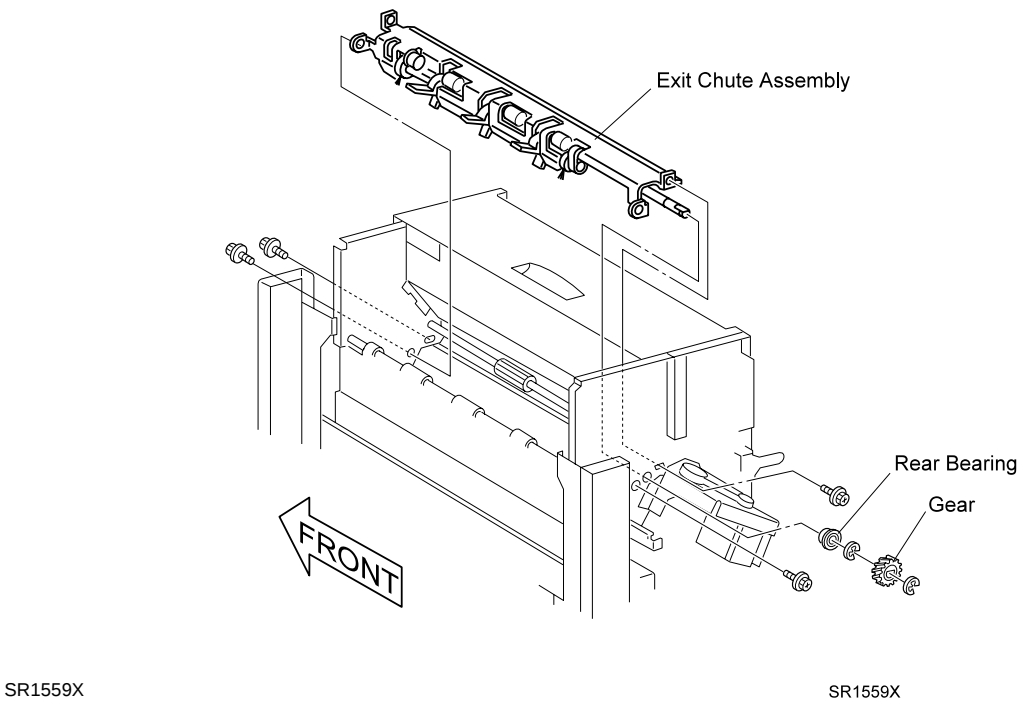

Figure 1
2. Remove the E ring securing the gear to the Paddle Drive Shaft, and slide the gear off of the Shaft (Figure 1).